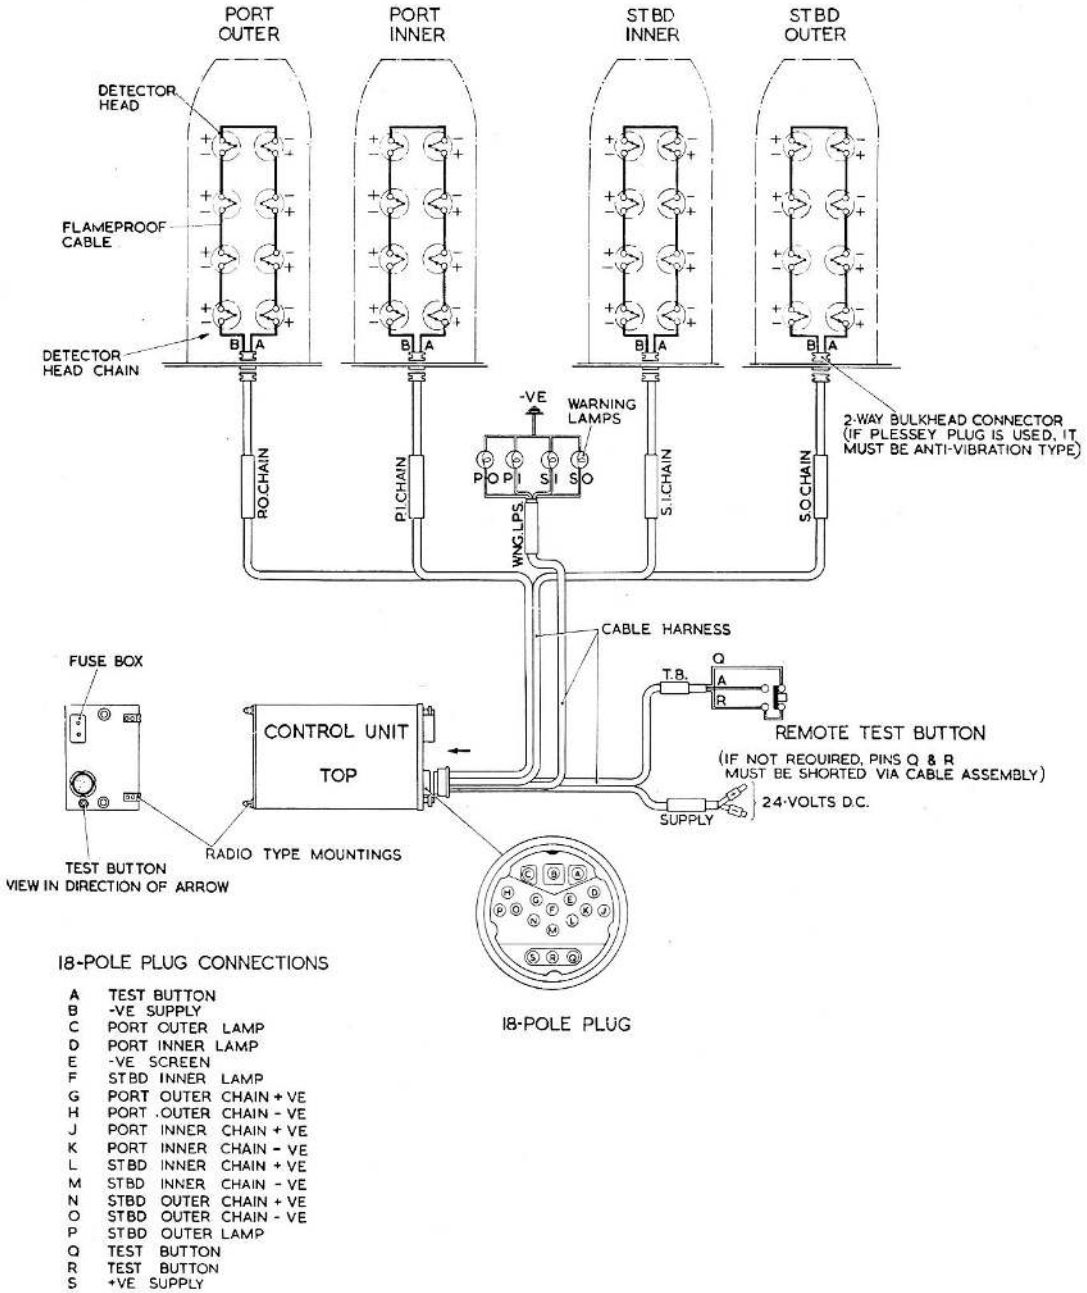

Fig. 3. Typical installation in a 4-zone fire warning system
6. The installation of the control unit is illustrated in fig. 3, which shows a typical installation of a unit in a 4-engine fire warning system. Further information is contained in A.P.4343, Vol. 1, Sect. 22.